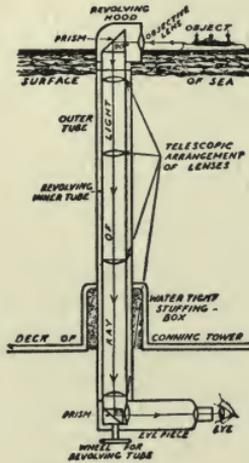

FIG. 54. HOW A MODERN PERISCOPE IS MADE AND WORKS.
*The Construction of the Periscope.*—Knowing now how a telescope is made and what it does and also knowing what a prism is and how it acts on light, all you have to do to understand the construction of a submarine periscope is to take a good look at Fig. 54.